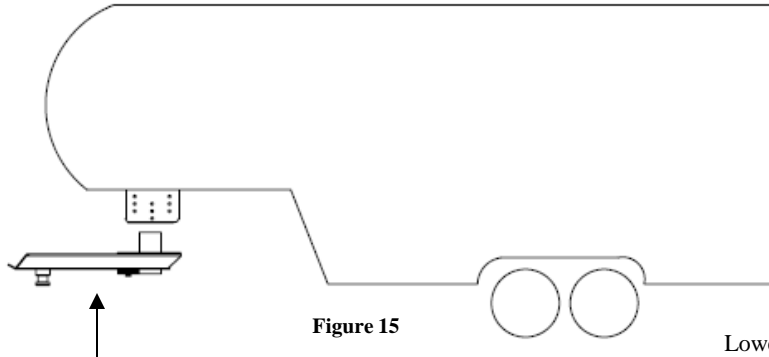

Figure 15
10. Install the Sidewinder™ inside the mounting wings (Figure 15). Cequent Performance Products recommends replacing the mounting bolts, nuts, and lock washers with the same size & grade as the bolts removed from the original pin box. Torque all bolts to the proper value listed in table 1.